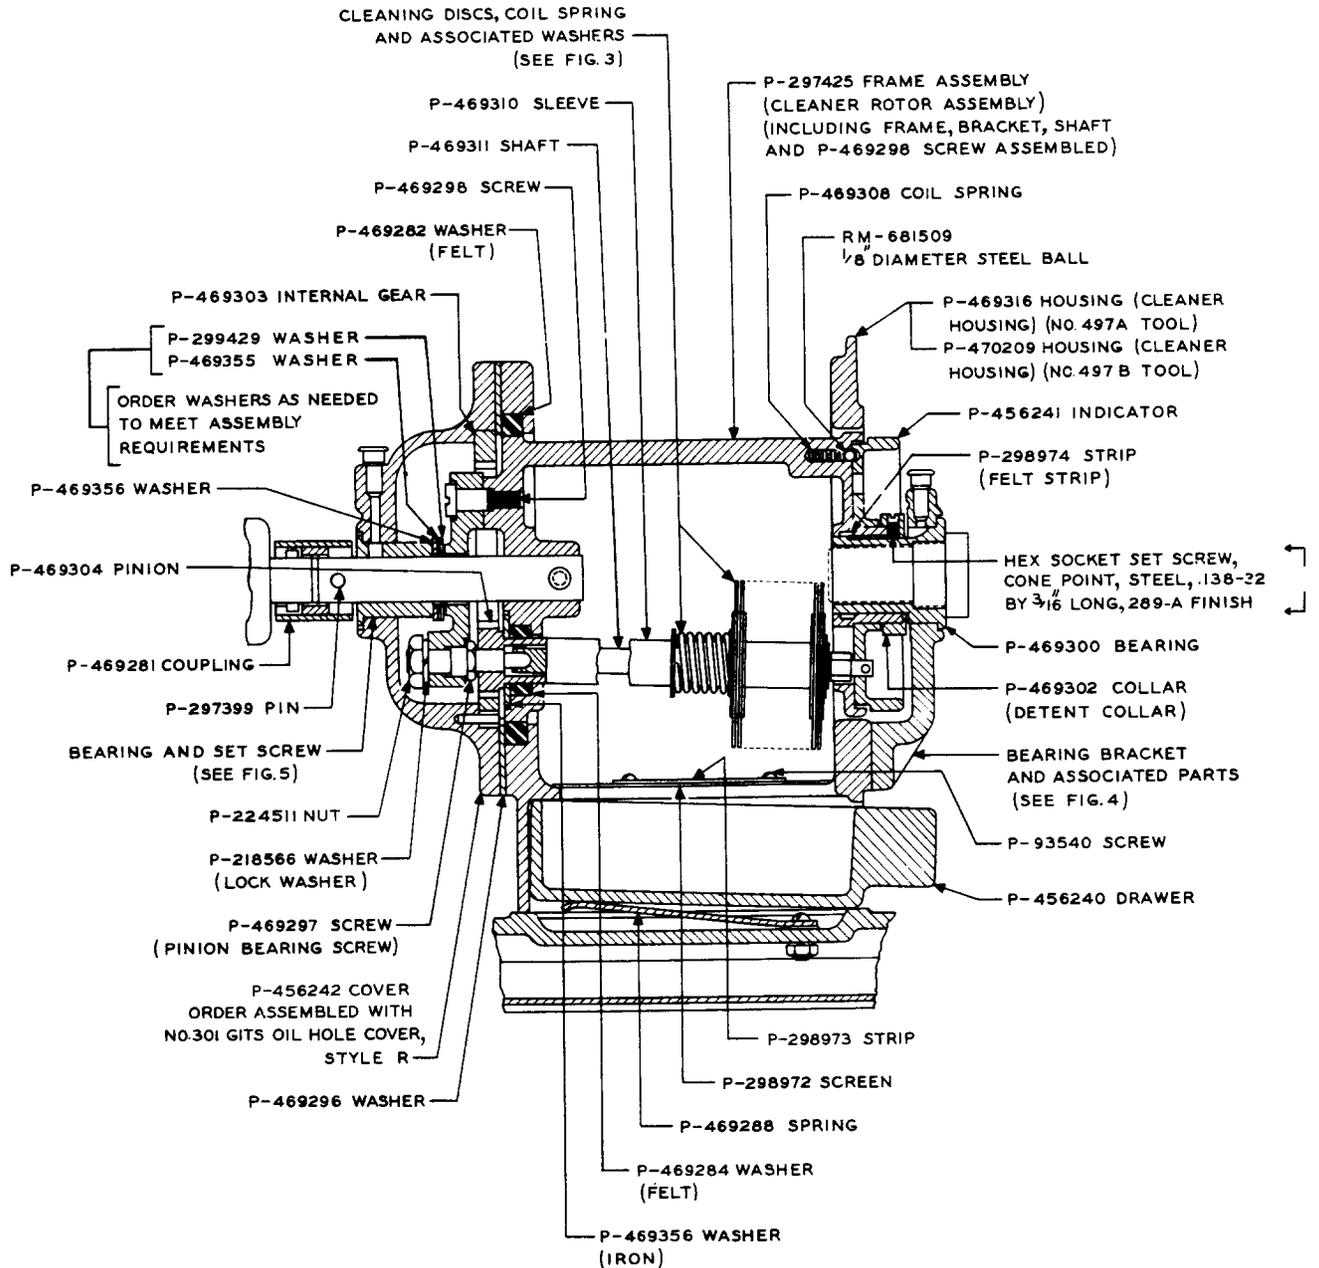

Fig. 2 - Cross-section View of Cleaner Housing Showing Gears, Bearings, Indicator, and Associated Parts
1. To revise the piece-part data and the list of tools and materials, add information for a plug cleaning machine having a universal motor and change to standard screws and washers (1.01 and 3.01 and Figs. 2, 6, 7, and 8).